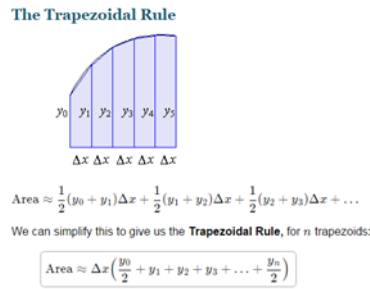

Figure 64 Trapezoidal Rule
- ii Evaluate total area below 0 volt by using Trapezoidal Method Area Calculation (refer to Figure 64)